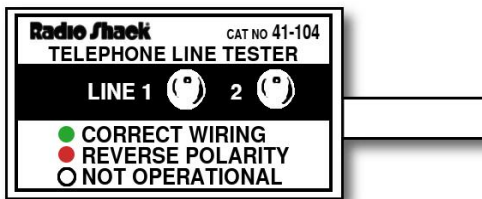

Fig. 44 – RadioShack telephone line tester.
- ✓ Verify telco source actually provides two lines. Use a volt meter to test for 48 VDC on both lines at the jack, or use a line checker (Fig. 44)